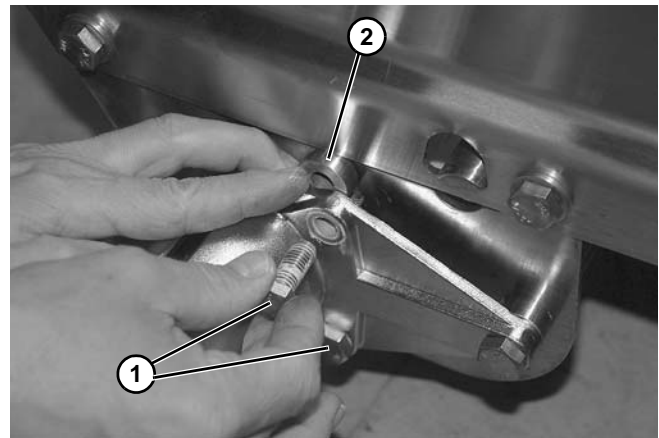

Figure 68
- Remove two screws (**Figure 68, item 1**) and spacers (**Figure 68, item 2**) from motor mount.